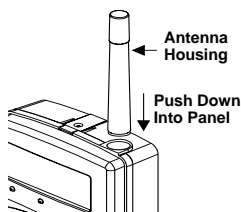

Figure 4. Optional Antenna Housing
- Push the antenna housing down into the top-right hole of the panel until it snaps into place (see Figure 4).